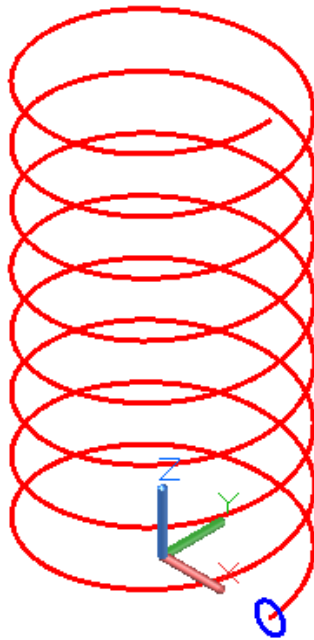

Figure Step 5
Step 5 Change the current UCS to Front and set layer: Profile as the current layer. Draw a 0.25 diameter circle with its center located at the end of the helix. (Figure Step 5)